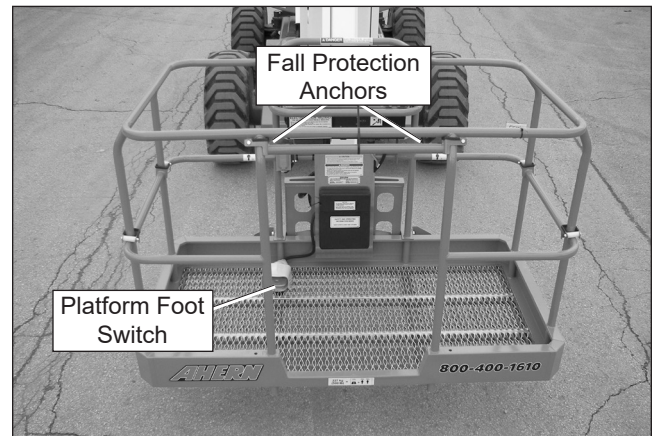

Figure 8.3 – Platform
1. Step down on the platform foot switch (refer to Figure 8.3). This switch must be held down to operate the upper controls.